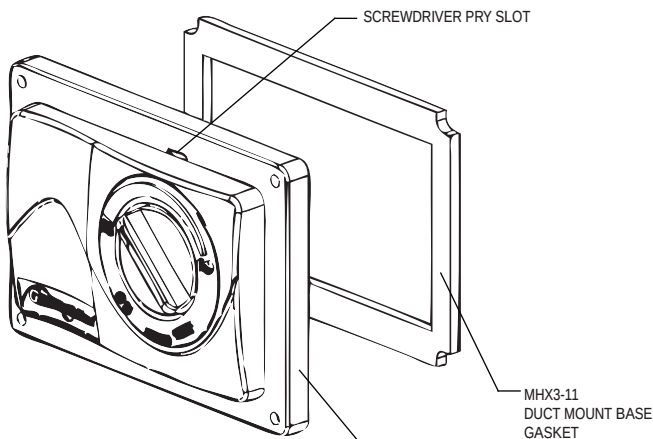

FIG. 2
2. Remove face by inserting screwdriver into the pry slot and twisting (see fig. 2)
3. Use the plastic duct mount plate as a template. Accurately mark and drill the (4) 3/32" mounting holes and cut away the 4-1/4" x 2-1/2" section of the duct mount plate.
4. Place duct mount base gasket on the humidistat base and mount the base with four screws. Low voltage wire may enter the humidistat under the gasket (see fig. 2)